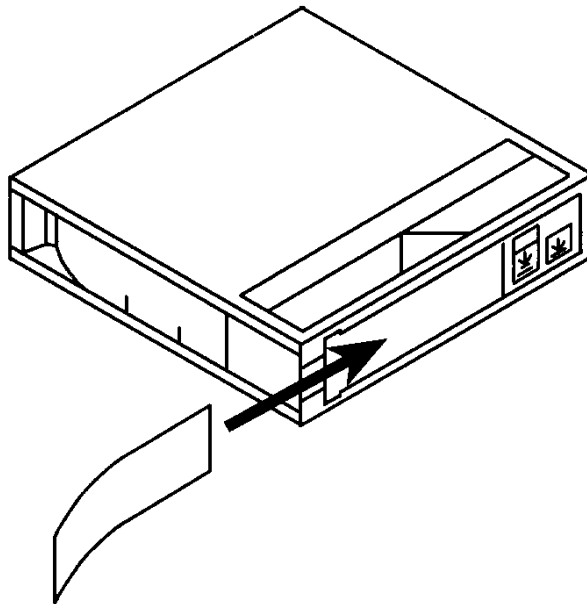

FIGURE 3-1 Label Position
2. Slide the label into the slot on the face of the tape as illustrated in FIGURE 3-1.